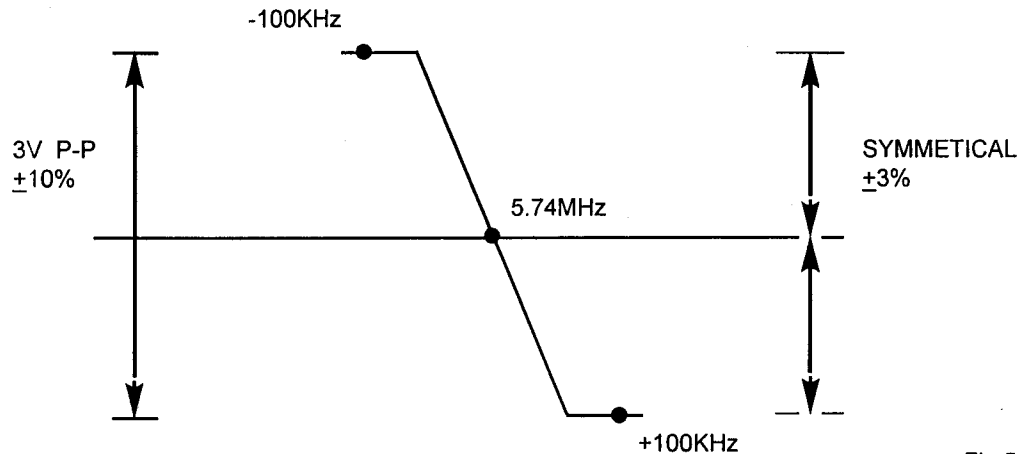

Fig.5
4. Adjust T203 to obtain the waveform as Fig.5.